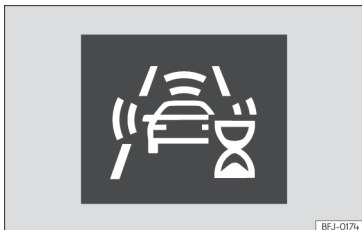

Fig. 260 On the instrument panel display: initial system self-calibration indication.
- In the first few instants of driving after switching on the ignition, due to the system's initial auto-calibration. During this period, a status icon »» Fig. 260 is displayed.